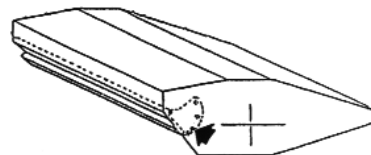

Fig. 4
2. The rear hatch should be in a completely closed position (Fig. 4) when used for mulching of prunings, or pulverizing debris.